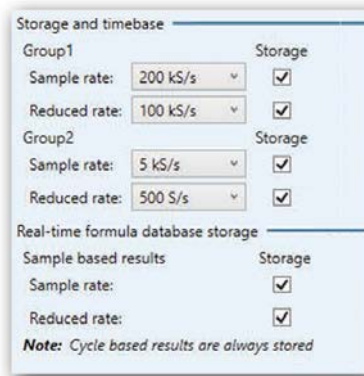

Figure 9.10: Storage and timebase
- D High sample rate and the reduced sample rate per group can be defined. In this area it should also be indicated which data is to be stored (see Figure 9.10).